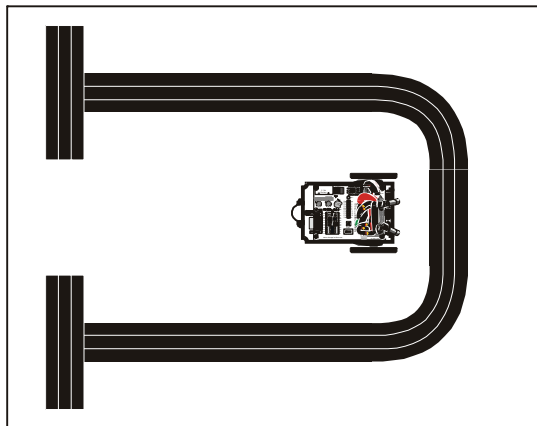
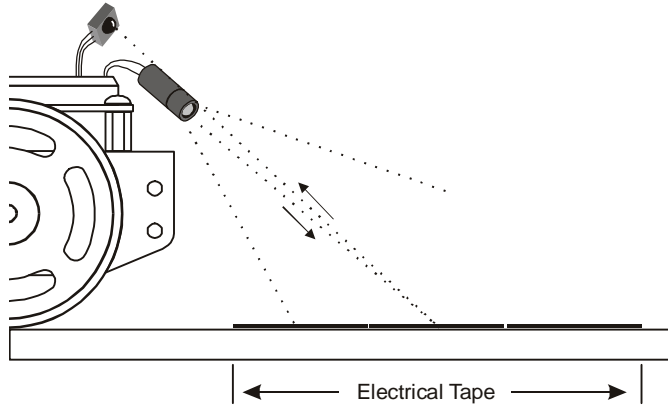

Figure 8-10
Figure 8-11
- ✓ Place your Boe-Bot so that both IR object detectors are focused directly at the center of your electrical tape stripe (see Figure 8-10 and Figure 8-11).
If you are unable to get a high zone value when the IR detectors are focused on the electrical tape, take a separate piece of paper, and make a stripe that's four strips wide instead of three. If the zone numbers are still low, make sure that you are using 2 k Ω resistors (red-black-red) in series with your IR LEDs. You can also try a 4.7 k Ω resistor to make the Boe-Bot more nearsighted. If none of this works, try a different brand of black vinyl electrical tape. Adjusting the IR LED/detector so that it is focused closer to or further from the front of the Boe-Bot (see Figure 8-11) may also help.